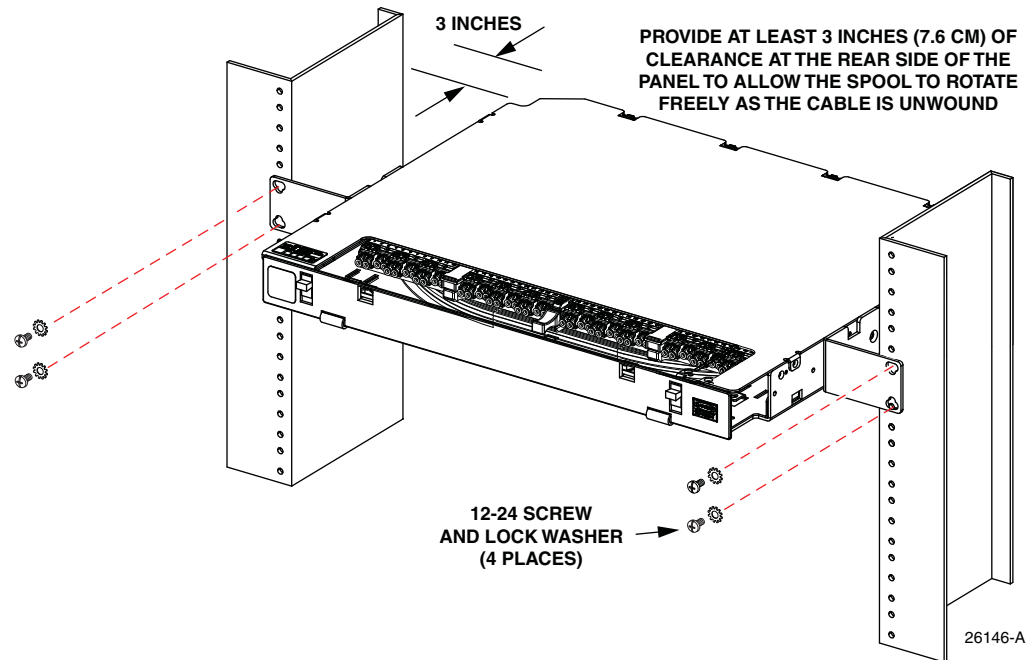

Figure 10. Mounting Panel in Rack
4. Secure the panel to the rack or cabinet using the four #12-24 screws and #12-24 lock washers provided, as shown in Figure 10.